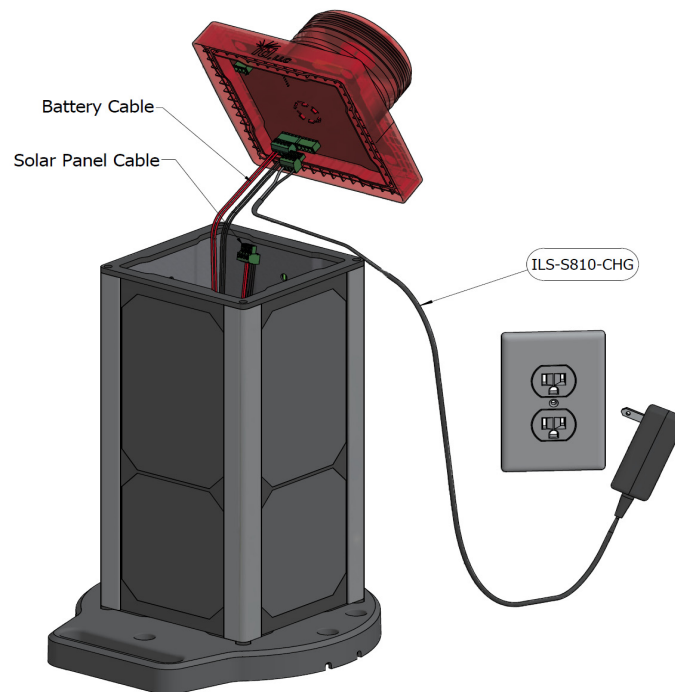

Figure 7: Battery Charging
8. Replace the lens on the body and secure with lens screws. (see figure 7 for more details).